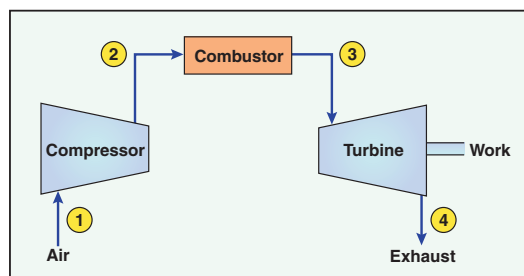

FIGURE 1. This schematic shows the basics of a combustion turbine that follow the four steps of the Brayton cycle (shown in Figure 2)
The core of many modern systems is the combustion turbine (CT), a simplified outline of which is shown in Figure 1.